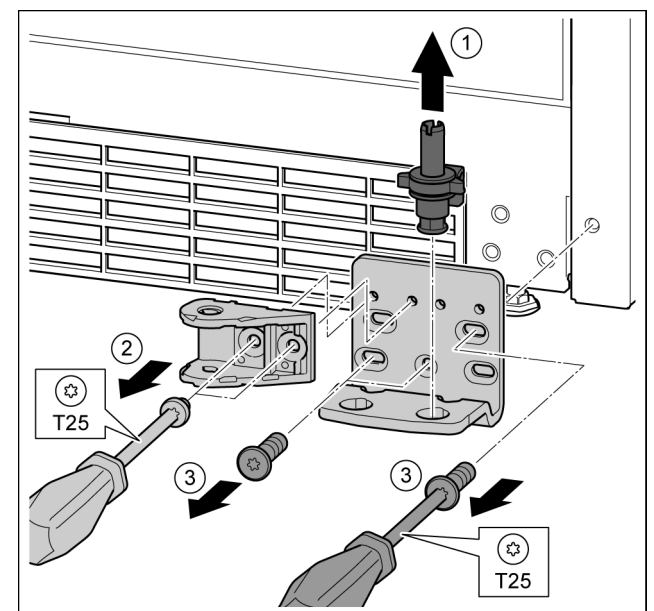

Fig. 30
- ▶ Lift the bearing pin completely upward and remove. Fig. 30 (1)
- ▶ Remove the screws with the T25 screwdriver and remove the soft stop connection. *Fig. 30 (2)*
- ▶ Undo the screws with a T25 screwdriver and remove the bearing bracket *Fig. 30 (3)*